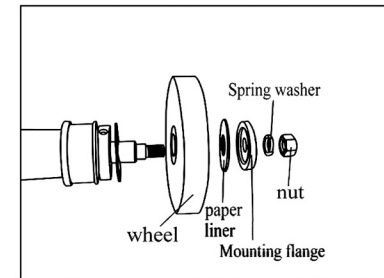

Fig3
2. To install the wheel, first remove the wheel guard and put the paper liner、wheel、paper liner、mounting flange、spring washer、 and nut onto the spindle, and then insert a thin & long hard stick(such as screwdriver) into the side of inner flange and must hold it, finally you can tighten the nut clockwise and install the wheel guard.(Fig3)